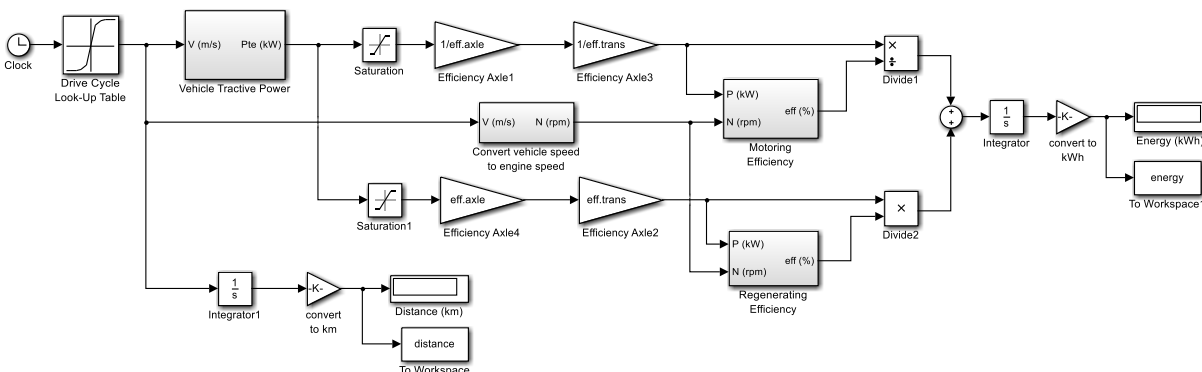

Figure 1 Illustrative solution for improved vehicle fuel energy model
An illustrative Simulink model for this problem is shown in Figure 1. The key changes from Project 6 are (1) a submodel to convert vehicle speed (m/s) to motor speed (rpm) and (2) a submodel to use the motor power and speed to determine the motor (and generator) efficiency.